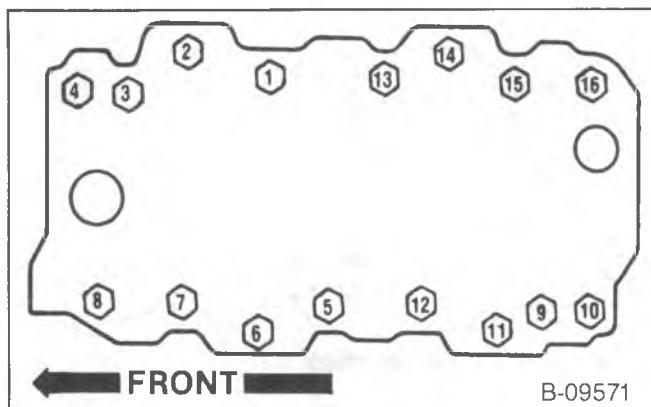

Figure 77—Intake Manifold Bolt Tightening Sequence
- Bolts (20) to 40 N·m (30 ft. lbs.). Use the tightening sequence shown in figure 77.